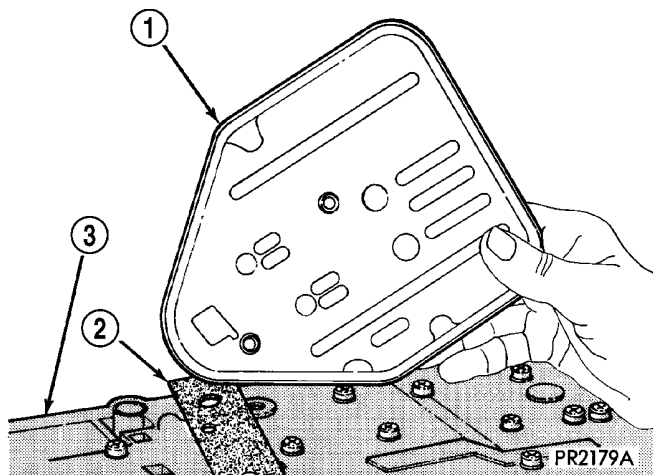

Fig. 5 Oil Filter and Gasket
(5) Remove oil filter and gasket (Fig. 5).